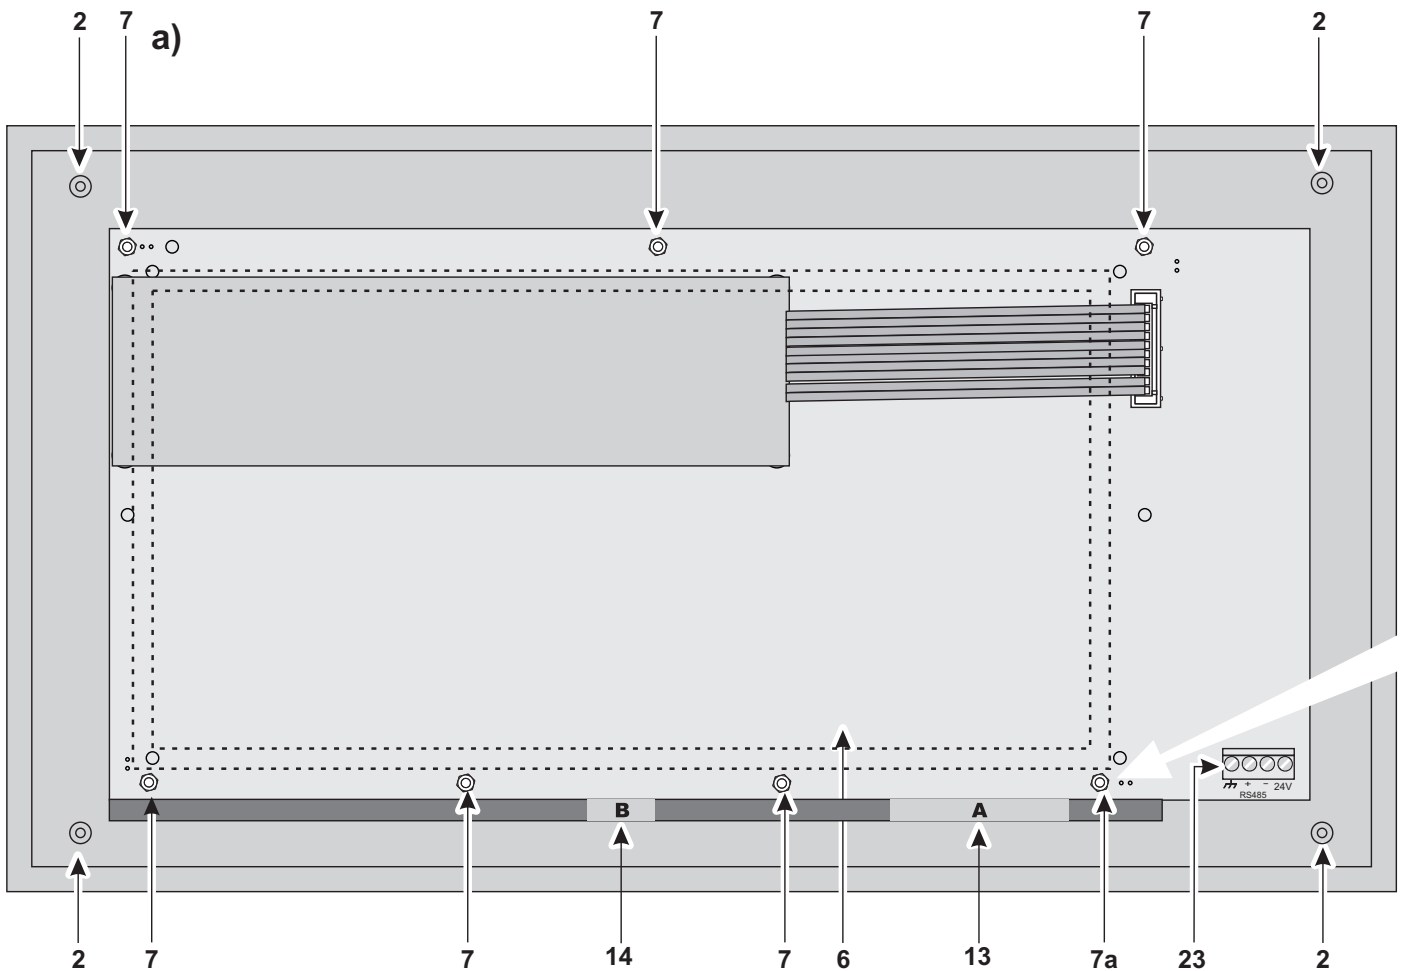

Figure 3 Configuration of the FC500REP Repeater **a)** frontplate (inside view); **b)** backplate.
| 7a | Earth connection (see figure 3) |
- 1) Remove the screws **2** and open the Control panel or Repeater FC500REP (see Figure 3).